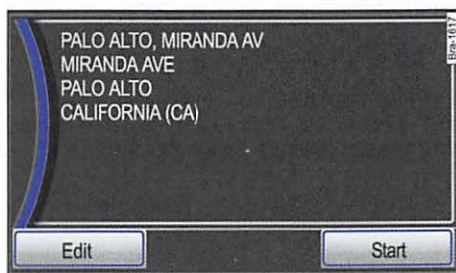

Fig. 52 Details view of a destination from the destination memory.
In Details view, the name under which the destination was saved as well as additional destination details are displayed $\Rightarrow$ fig. 52.
- Press the **[Edit]** function button $\Rightarrow$ fig. 52.